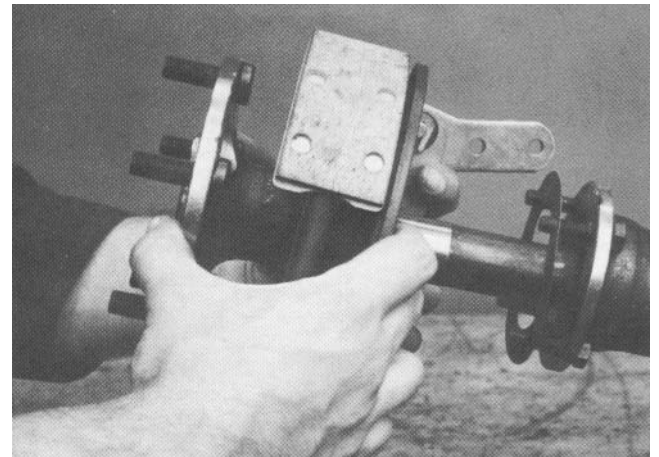

Figure 9
7. Pull the axle shaft and brake assembly out of the axle housing (Fig 9).